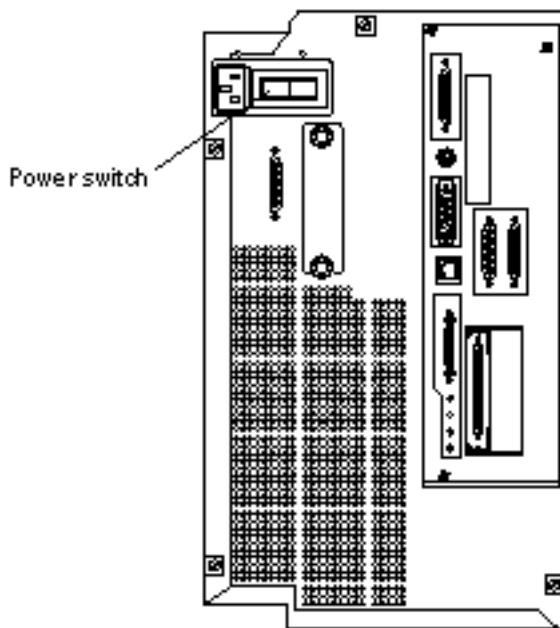

Figure 1-9 Powering On the Netra 150 Server
- 12. Turn the power switch at the rear of the Netra 150 server to the ON () position (Figure 1-9).**